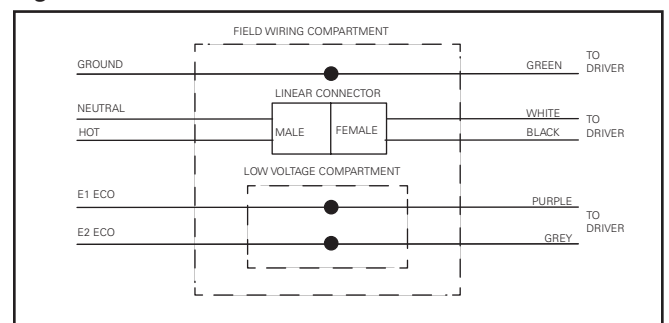

Figure 11.
- d. For Lutron 3 wire dimming, use purple wire with E1 terminal and gray wire with E2 ECO terminal on ESN (Figure 11.). Do not use the purple and gray wires.